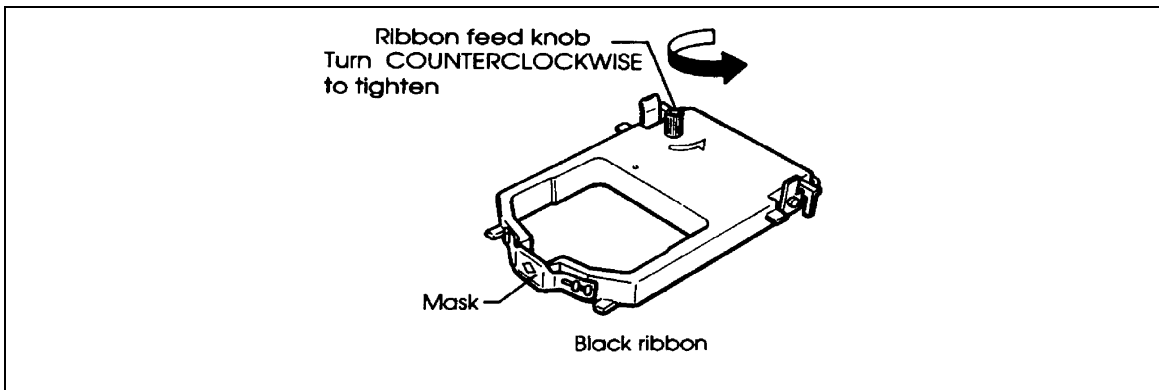

Figure 3-19. Preparing the Ribbon Cartridge.
- (c) Remove the ribbon cartridge from the package; familiarize yourself with the features of the ribbon cartridge as shown in figure 3-19.